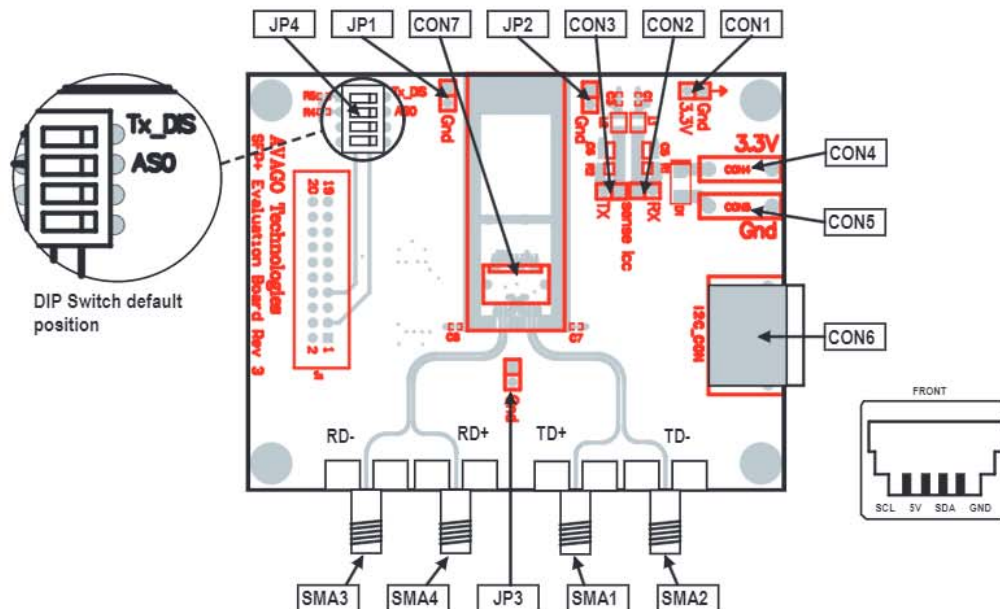

Figure 1. SFP+ Evaluation Board Top Views
Top view of the evaluation PCB is shown in Figure 1. TX_Disable and ASO pins should be grounded by default using DIP switch (JP4) setting as shown in the diagram. Apply 3.3V power supply to CON4 with CON5 GND. CON2 and CON3 can be used to monitor the current to SFP module RXVCC and TXVCC supplies respectively. Measure the voltages and divide by 0.05 ohm sensing resistors. Use CON6 to access the SFP module two wire serial signals, SCL and SDA. JP1, JP2 and JP3 are all tied to the evaluation board common circuit GND.
The SFP+ MSA specifies an EEPROM internal to the transceiver. The standard two wire serial protocol can be implemented to allow the user to read/write the user accessible area in the EEPROM by using the MOD_DEF(1), MOD_DEF(2) and GND connections on the Evaluation board. MOD_DEF(1) and MOD_DEF(2) are equal to SCL and SDA respectively as shown in the Figure 1 connector illustration.